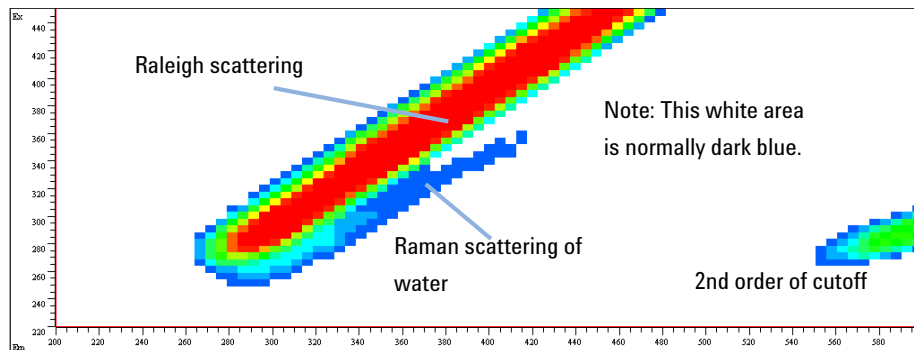

Figure 41 Fluorescence Scan of Water
- 4 Define a data file name and take a fluorescence scan. After the scan is completed, the isoabsorbance scan results appear, see Figure 41 on page 92.